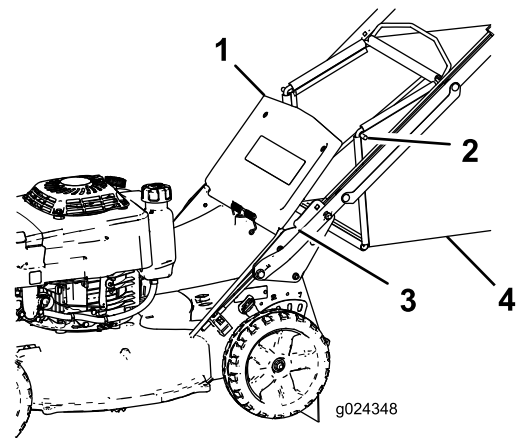

Figure 19
2. Raise and hold up the rear door (Figure 19).
4. Install the bag-rod ends into the notches at the base of the handle, and rock the bag back and forth to ensure that the bag-rod ends are seated at the bottom of both notches (Figure 19).
3. Remove the bag rod on the grass bag from the notches at the base of the handle (Figure 19).